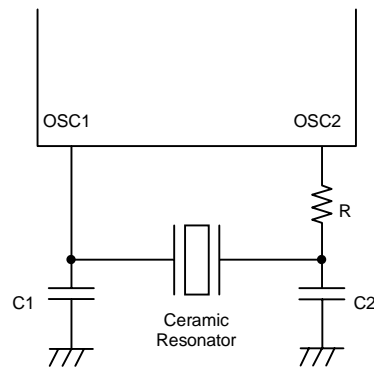

Figure 3 Ceramic Resonator Circuit
- (1) When oscillated internally under the oscillating conditions in Fig.3, generated voltage can be over the maximum limit of the VDD.
- (2) Average for 100 ms period.
- (3) Operating supply voltage VDD must be held until the microcontroller enters in the standby mode after the execution of the HALT instruction. Any chattering should not be generated at the PA3 pin during the HALT instruction execution cycle.
- (4) Recommended circuit constants that are verified by the oscillator manufacturer, using oscillator characteristic evaluation board selected by SANYO.
- (5) The OSC1 pin will have schmitt characteristics when external clock oscillator or the two-pin RC oscillator is selected as an oscillation option.
- (6) These are the results of testing using the value at each part on the Fig.3 circuit which is recommended by SANYO. These results do not include the current applied to the output transistor, nor the current applied to the transistor with a pull-up resistor on the LSI.
- (7) fCFOSC is the frequency when the values in table 1 are used.
- (8) This indicates the elapsed time that is required before the oscillation becomes stable after the VDD exceeds the minimum limit of the operation supply voltage.
- (9) TCYC=4×system clock period
- (10) When used in an environment that may result in condensation, note that a current leakage between PE1 and adjacent pins